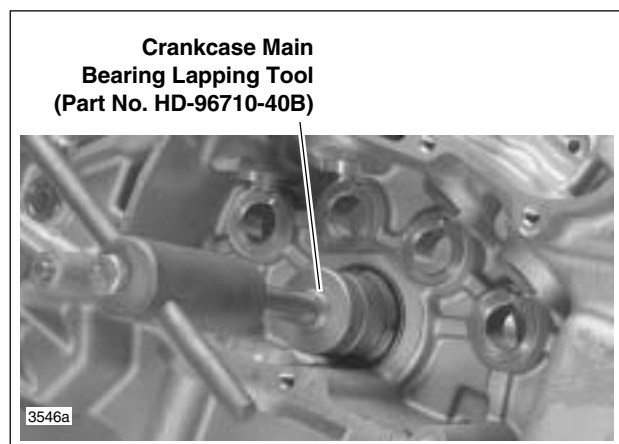

Figure 3-90. Lapping Pinion Shaft Main Bearing
2. See Figure 3-90. Obtain CRANKCASE MAIN BEARING LAPPING TOOL (Part No. HD-96710-40B). Assemble CRANKCASE MAIN BEARING LAP (Part No. HD-96718-87) to lapping handle. Assemble guide sleeve to sprocket shaft bearing bushing. Sleeves, for use with tapered bearing, are assembled to case with bearings and small spacer collar. Finger-tighten the sleeve parts.